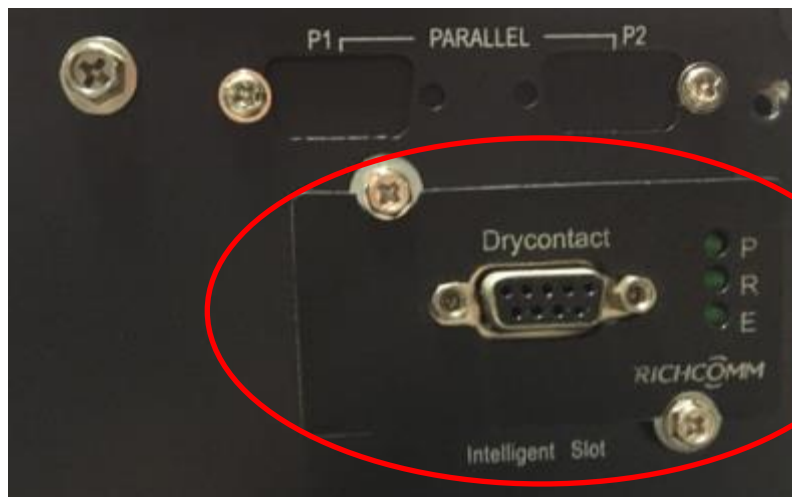

Figure 5 Insert Dry contacts board
5. Insert Dry contacts board, as is shown in figure 5.